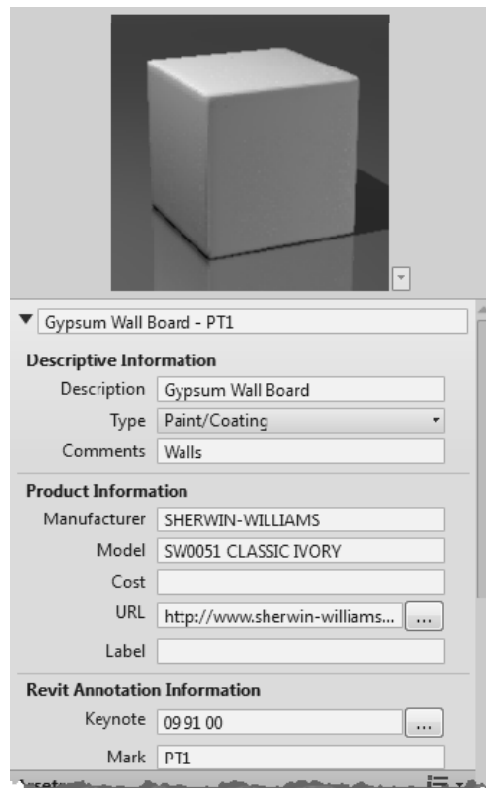

FIGURE 4-3.13 Identity info for PT1
41. Fill out the **Identity** panel using the information from the website as shown in Figure 4-3.13.